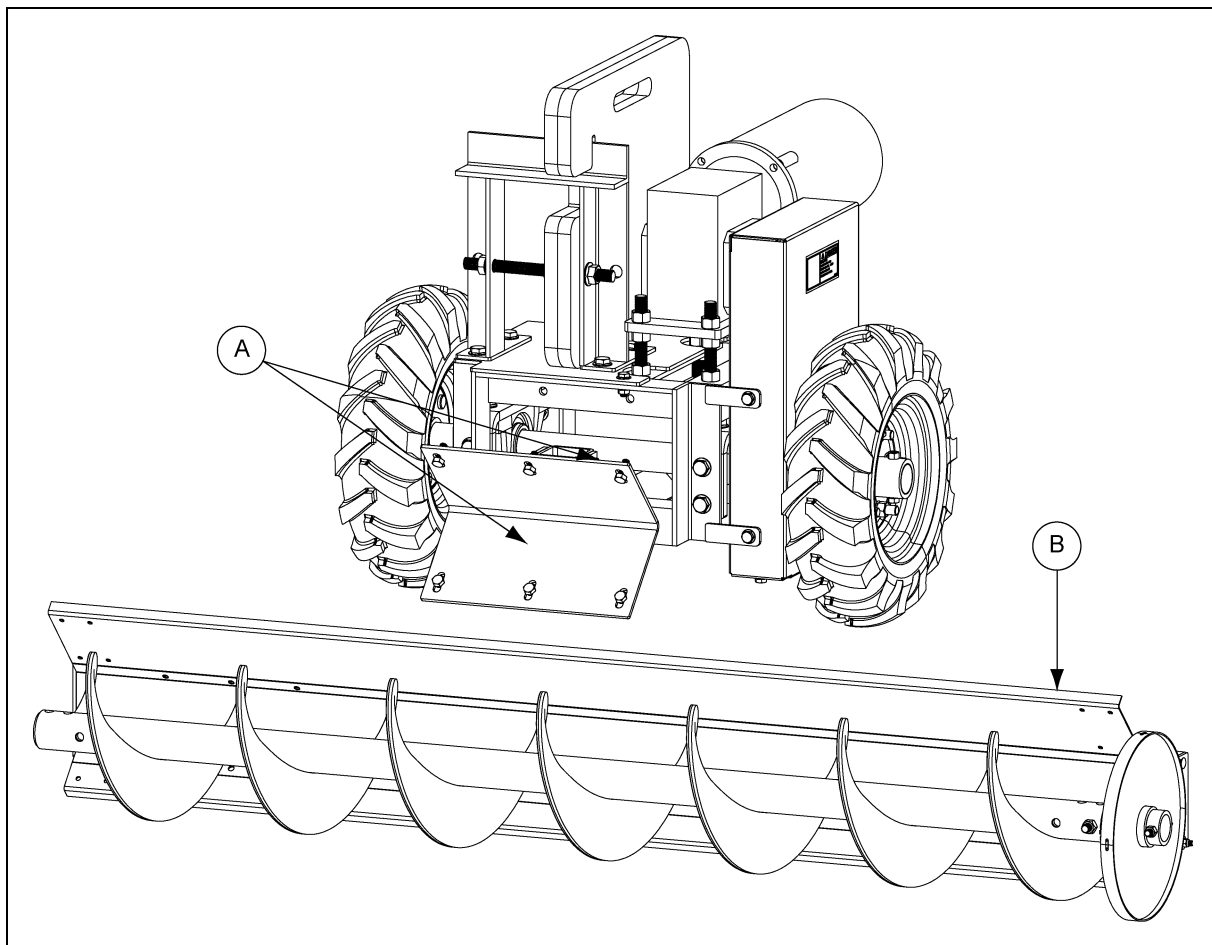

Figure 4M Sweep Tractor to Shield Assembly
4. After marking the hole locations, drill six (6) 7/16" holes and attach the sweep tractor to the back shield (B) using six (6) 3/8" x 1" hex head cap screws, flat washers and nylock nuts.
5. Install electric wiring for motor and controls. (*See Figure 4M.*)